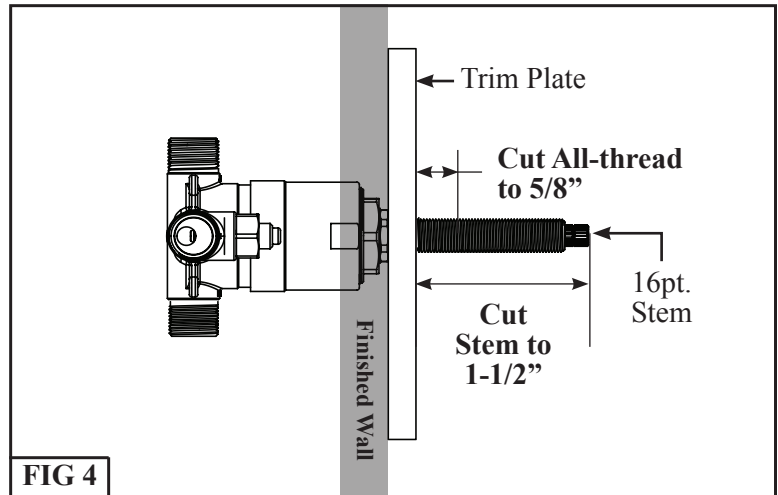

FIG 4
Step 3: Install the Flange using the 2 Plastic Washers and the Locking Nut to secure the Flange and Trim Plate to the wall. See **FIG 4**